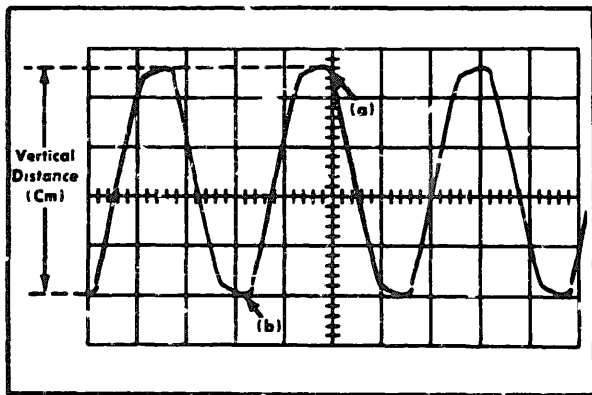

Figure 3-1. Measuring the peak-to-peak voltage of a waveform.
- 5 Use the Channel 1 POSITION control to vertically position the waveform to a point on the CRT where the waveform amplitude can be easily determined. For example, position the waveform so that the negative peaks coincide with one of the lower graticule lines and one of the positive peaks lies near the graticule vertical centerline (see Fig 3-1).
In measuring signal amplitudes, the width of the trace may be an appreciable part of the overall measurement. To make the measurement as accurate as possible, measure from one side of the trace (particularly when measuring low-amplitude signals). Notice in Fig. 3-1 that both points (a) and (b) correspond to the bottom side of the trace. The measurement would be just as accurate if points (a) and (b) corresponded to the top side or center of the trace.